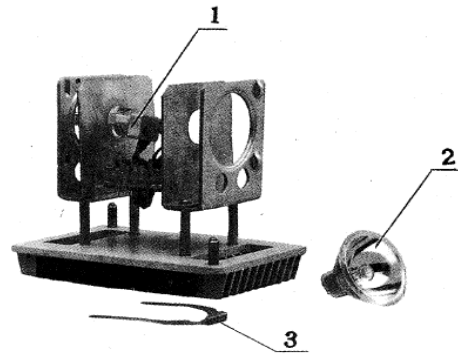

Fig9
- (2) A bulb should be changed in time after an operation for being ready for next operation. Pull out the socket from the light base (Fig.9-1). Draw out the spring pressor (Fig.9-3). The bulb(Fig.9-2) can be taken out (refer to Fig.9). Then fix the new bulb in a reverse way. (Cold mirror halogen bulb 1 12V1 OOW)